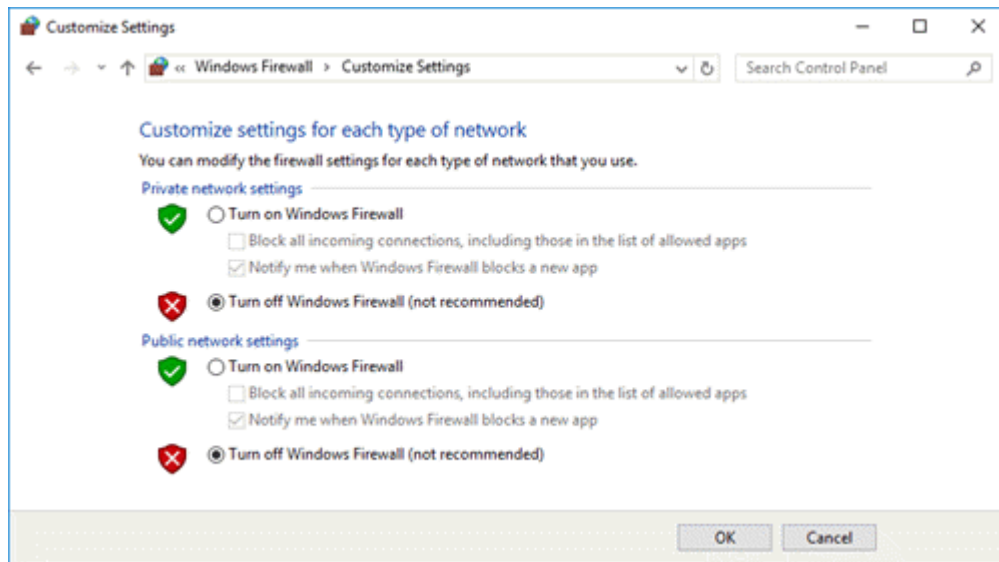

Figure 126: Windows Firewall Disabled
4. In the desired sections, click **Turn off Windows Firewall** (Figure 126).